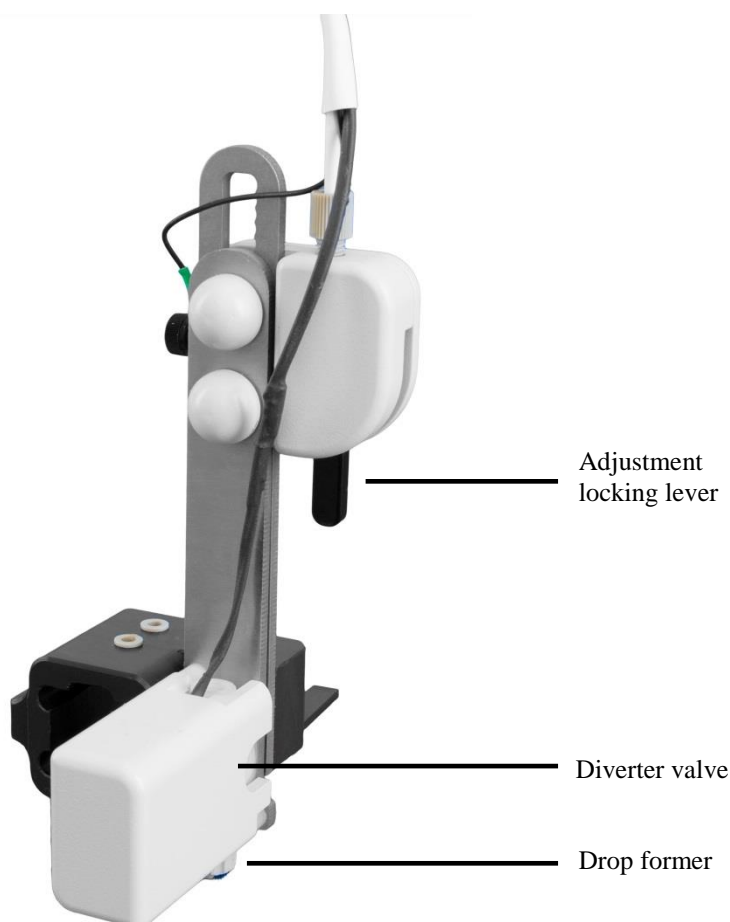

Fig. 25: Diverter valve assembly with drop former
1. Grasp the diverter valve assembly firmly by the vertical stainless steel element while rotating the adjustment locking lever upward. This will unlock the slider assembly, allowing you to move it up and down freely (→ Fig. 25).